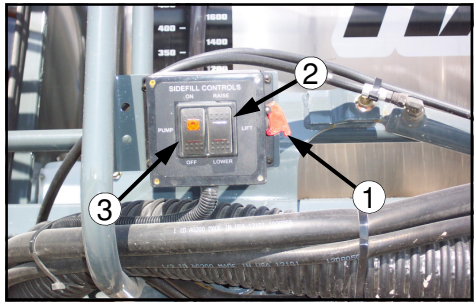

FIG 4.34-1
INDUCTOR OPERATION- With the engine running and the parking brake set, flip the lock switch up (fig.4.34-1,item 1). Lower the inductor assembly with the inductor control box switch (fig. 4.34-1, item 2). If filling with the suck-on attachment, leave the engine running. If filling with the push-on attachment, turn the engine off.
*To activate “suck-on” pump, flip the inductor control switch up (fig. 4.34-1, item 3). This will start the pump. Flip switch down when filling is complete.